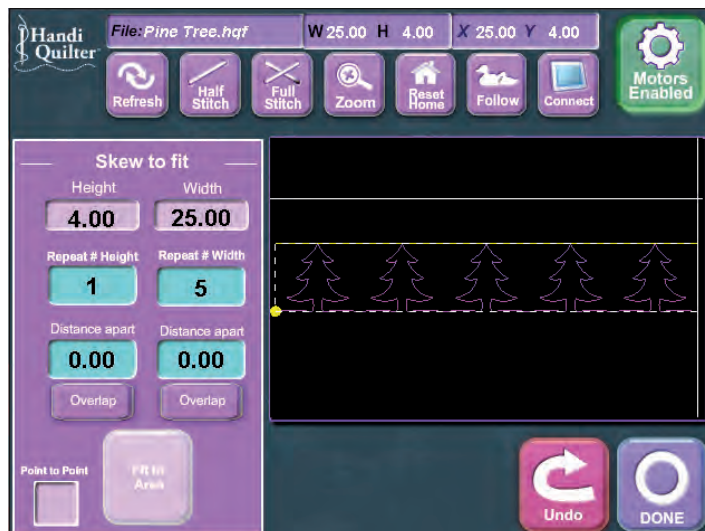

Figure 26
A. Enter the height and width (in inches) of the area to be filled in the appropriate boxes using the pop-up number pad (Figure 26).
5. Press the “Fit to Area” button to process the repeats. The HQ Pro-Stitcher will stretch or shrink the patterns as needed to precisely fit the desired area with the number of repeats selected (Figure 26).